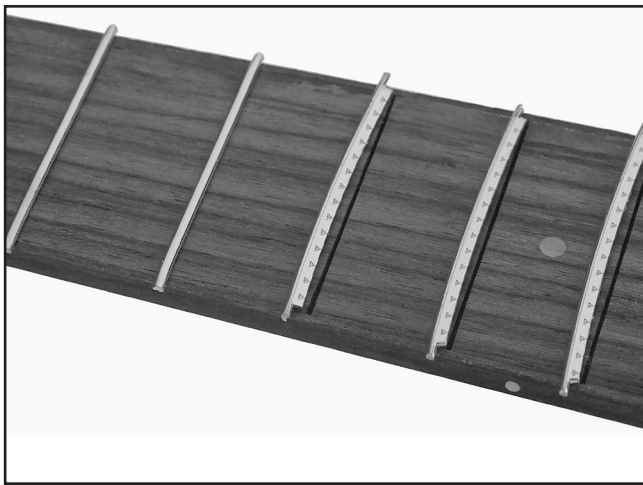

Figure 21. Matching the frets to their respective slots on the fingerboard.
1. Match the frets to the corresponding fret slot on the fingerboard, as shown in **Figure 21**.